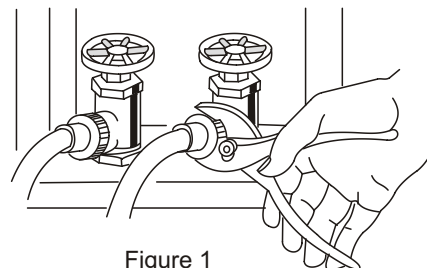

Figure 1
1. Attach the water inlet hoses to the hot water faucet and the cold water faucet. Using pliers, tighten the coupling. (As figure 1)